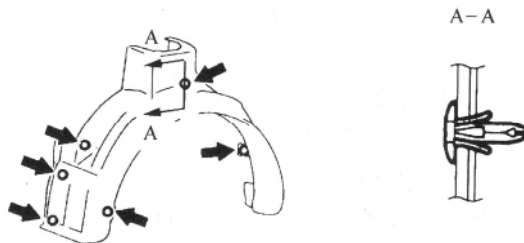

Fig. 18-26
- (1) Keep the front wheel housing to the body in correct position.
- (2) along the arrows, fix the front wheel housing to the body by clips.(see figure18-26)